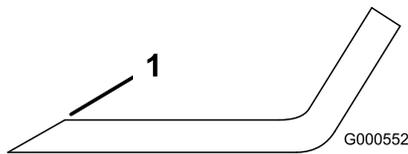

Figure 61
- Use a file to sharpen the cutting edge at both ends of the blade (Figure 61).
Note: If the blade is not balanced, file some metal off the end of the sail area only (Figure 61).